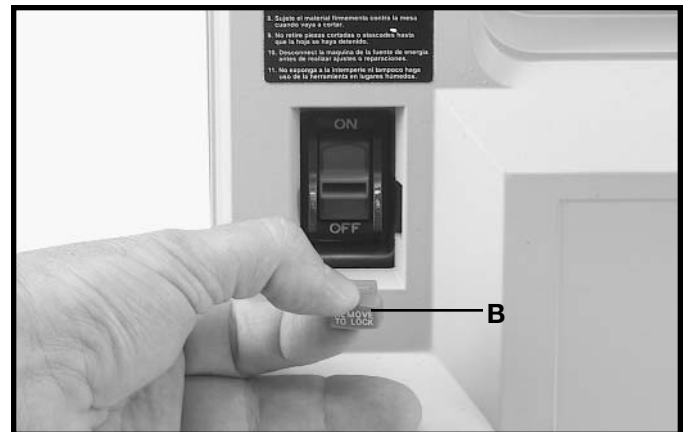

Fig. 16
**IMPORTANT:** When the tool is not in use, the switch should be locked in the “OFF” position to prevent unauthorized use. This can be done by grasping the switch toggle (B) Fig. 16, and pulling it out of the switch, as shown. With the switch toggle (B) removed, the switch will not operate. However, should the switch toggle be removed while the machine is running, the switch can be turned “OFF” once, but cannot be restarted without inserting the switch toggle (B).